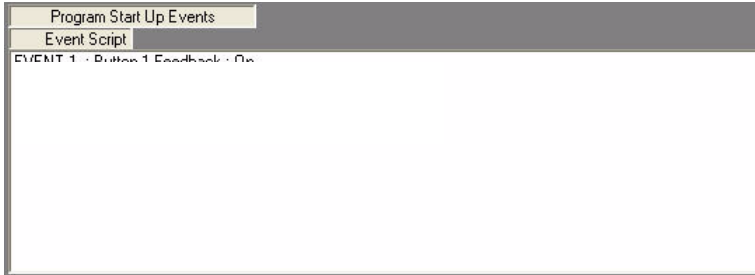

FIG. 111 Program Start Up Events (Event Script) window
2. This invokes the *Program Start Up Events (Event Script)* window (FIG. 111):